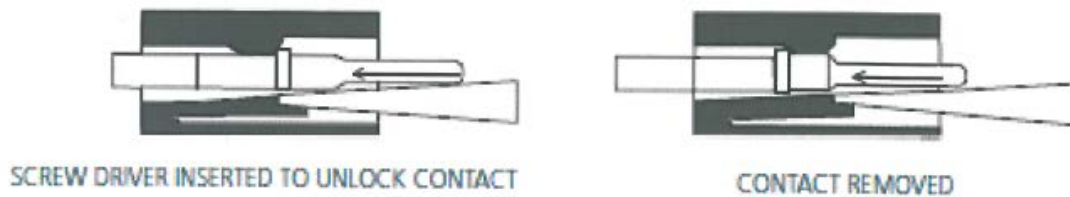

Figure 5: Molex pin removal
1. Remove each contact from the Molex connector by inserting a screwdriver into the connector per Figure 5 to unlock to the contact.